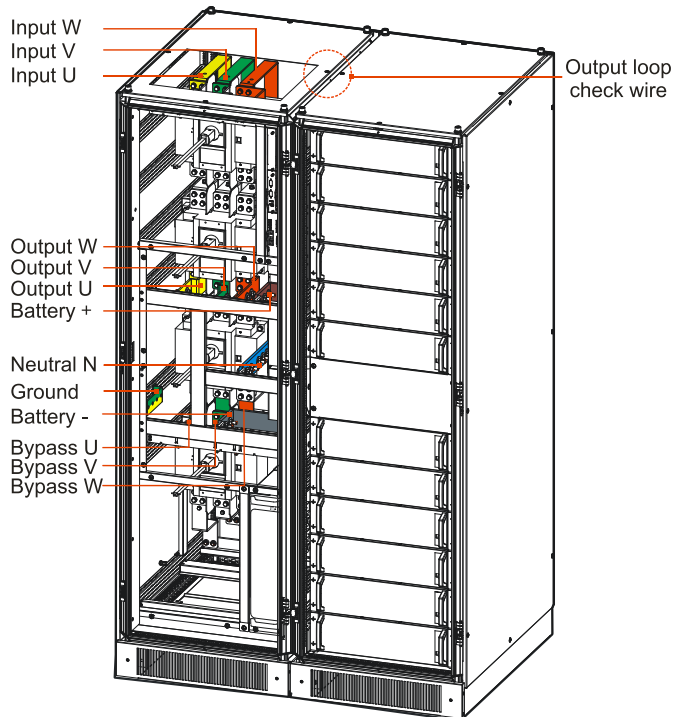

Figure3-27 Wiring terminal of distribution cabinet
Step 3 Connect the input, output and battery wires according to Figure3-27 in proper order, and then fasten the bolts.